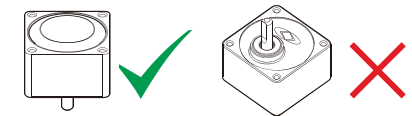

Fig. 4
1. When the gear head falls flat for a long time or the output shaft is placed upward, some oil content will leak out (please refer to Fig. 4).
2. When the gear head is not in use, the O-ring should be nested in the sealed cap, which then covers the mating face of the gear head. The output shaft of the gear head should be placed downward to avoid oil leakage (refer to Fig. 4).